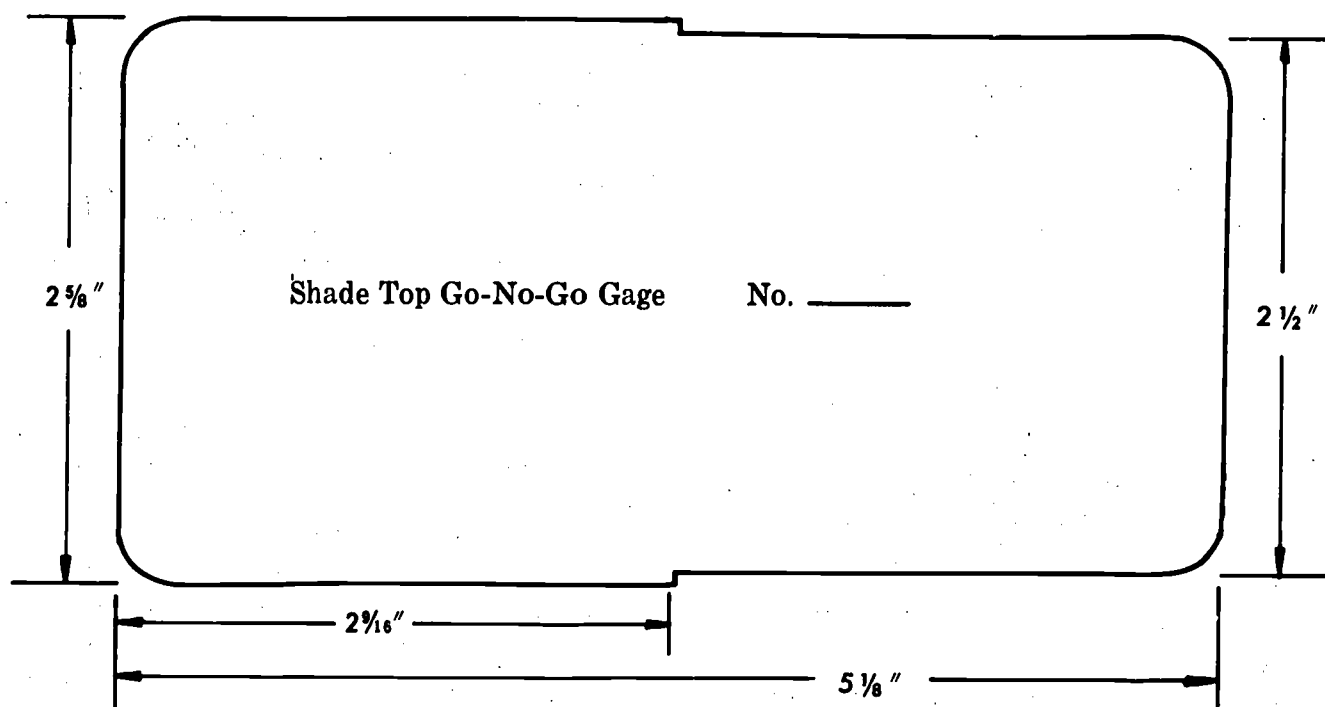

Fig. 154-2. Shade Top Go-No-Go Gage (Full Scale)
Figures 154-2 and 154-3 provide patterns for the gages.
- 1 go-no-go gage to inspect formed shade tops, Fig. 154-2
6. The teacher must cut out one metal shade top go-no-go gage and one base-bottom go-no-go gage for each group of five students. See Figs. 154-2 and 154-3. The teacher may decide to duplicate the patterns and have each student make a gage.